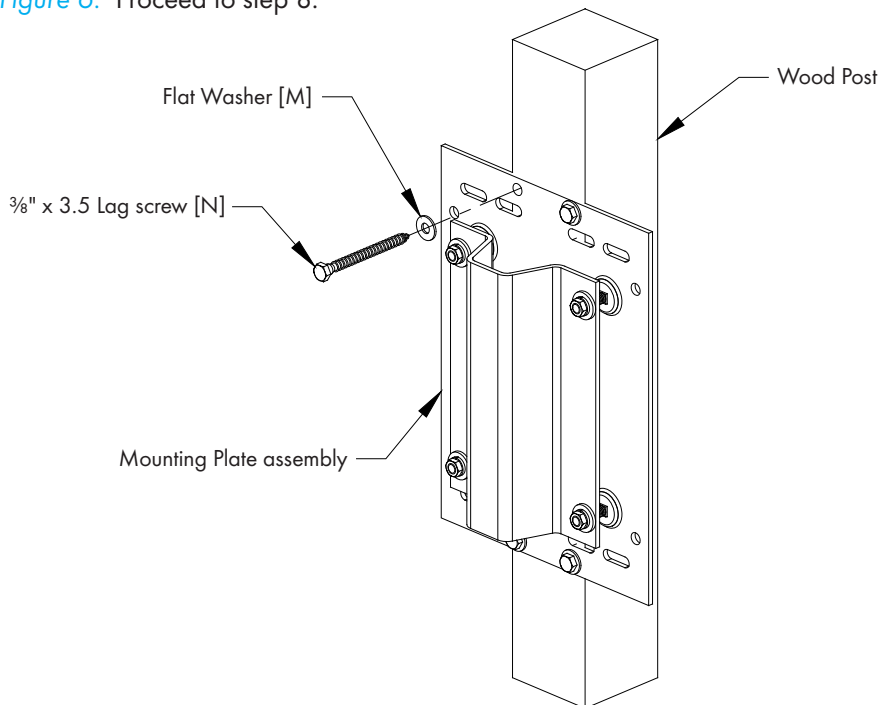

Figure 6
Attach Mounting Plate assembly to wood post using (4) Lag Screws [N] and Flat Washers [M]. See Figure 6. Proceed to step 8.